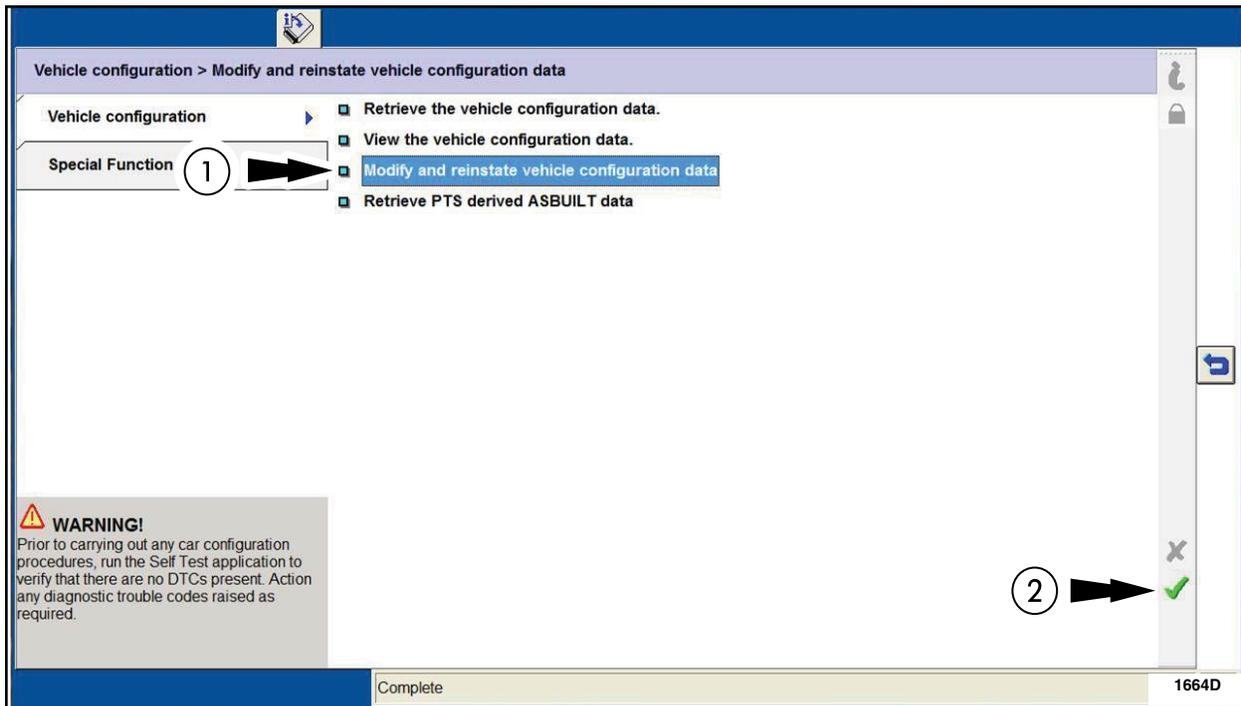

FIGURE 3
3. Select Modify and reinstate vehicle configuration data and then click the tick mark. See Figure 3.